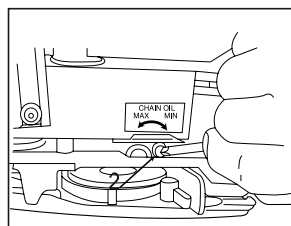

Figure 12
2. Chain oil port (Figure 12).